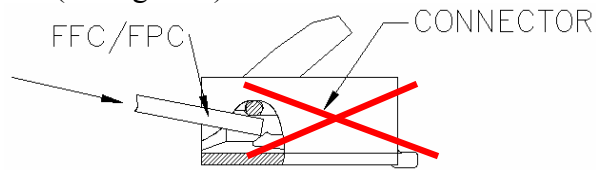

Figure 9.
- When inserting the FPC/FFC, do not forcefully rub against the surface beneath the connector insertion slot. Doing so will result in the FPC/FFC forcefully striking the contacts and this will cause contact deformation, peeling of the FPC/FFC conductors, and other irregularities. (see figure 9).